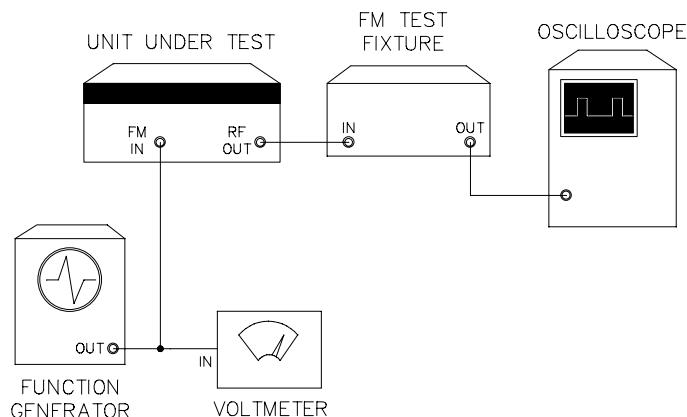

Figure 4-10. Frequency Modulation Test
1. Connect the FM test fixture to the RF OUT connector of the UUT as shown in Figure 4-10.